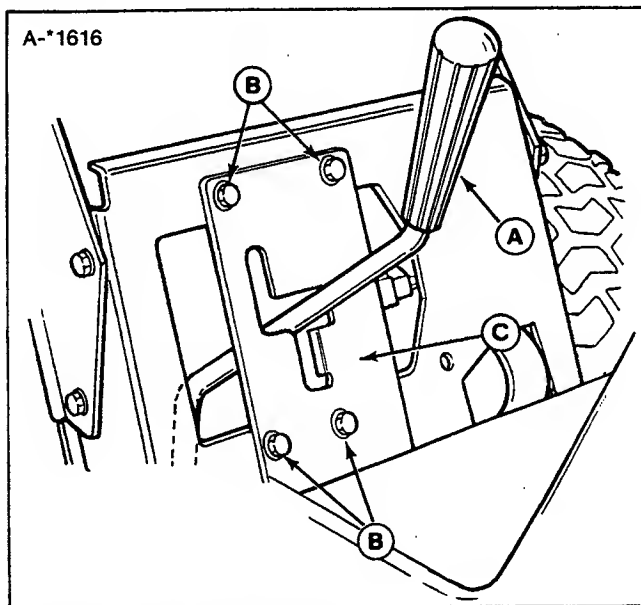
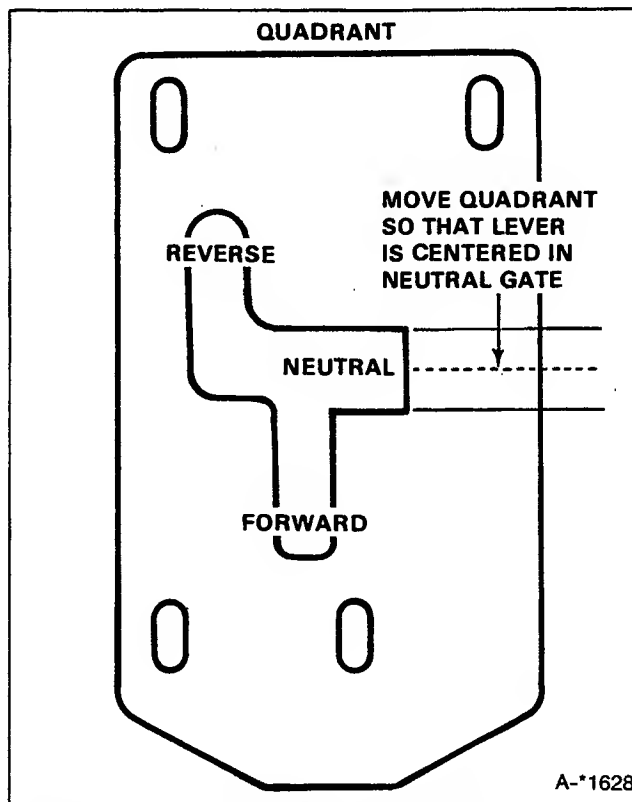

Figure 30. Shift Quadrant
Figure 31. Shift Quadrant Adjustment
2. Remove front access panel by lifting over ground speed control lever (A, figure 30).
3. Loosen, but do not remove, four screws (B) securing quadrant (C). Make sure that quadrant is free to move up and down.
5. Adjust the quadrant (C) so that the control lever is centered from top to bottom in the neutral gate. Refer to figure 31.
6. Tighten quadrant screws (B). Drive tractor a short distance in forward and reverse. Stop tractor and recheck adjustment.